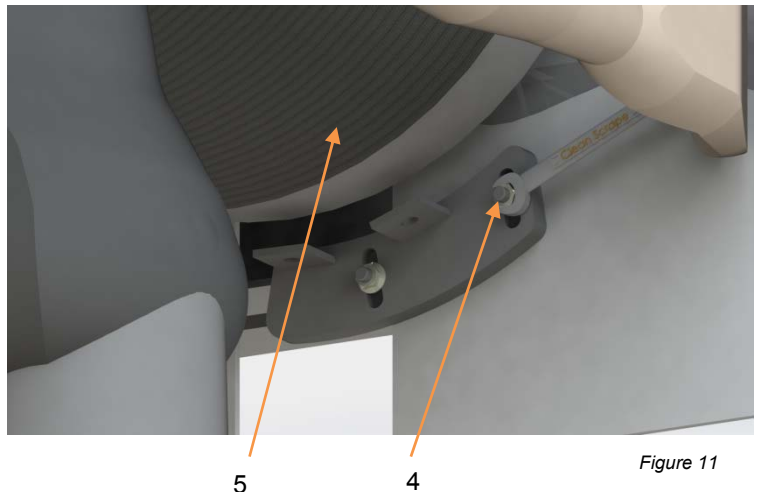

Figure 11
- Tighten the two clamping nuts (4) of the system fixed point. (Figure 11)